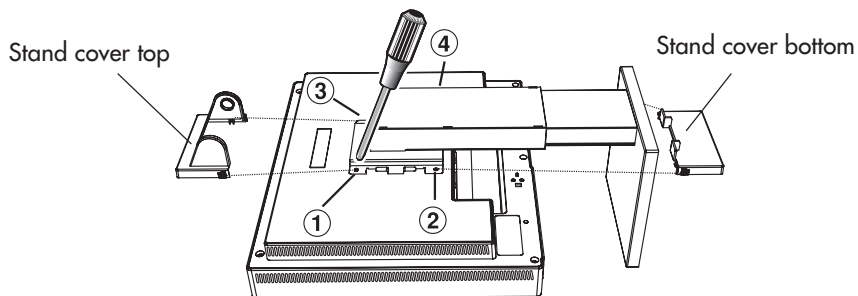

Figure S.2
4. Remove the stand cover by sliding the top/bottom pieces off the stand (Figure S.2).
5. Remove the 4 screws connecting the monitor to the stand and lift off the stand assembly (Figure S.2). The monitor is now ready for mounting in an alternate manner.